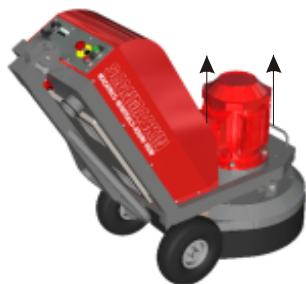

Figure 3-1 Lifting points
- Fasten the straps used for lifting at the two handles as shown in “Figure 3-1”.